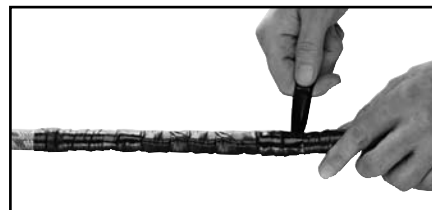

Figure 13
1. Application of a semi-conducting tape, when it is used, over the conductor connector must result in a smooth contour. (Figure 13) Insulation putty can assist in this, as well as seal against moisture.